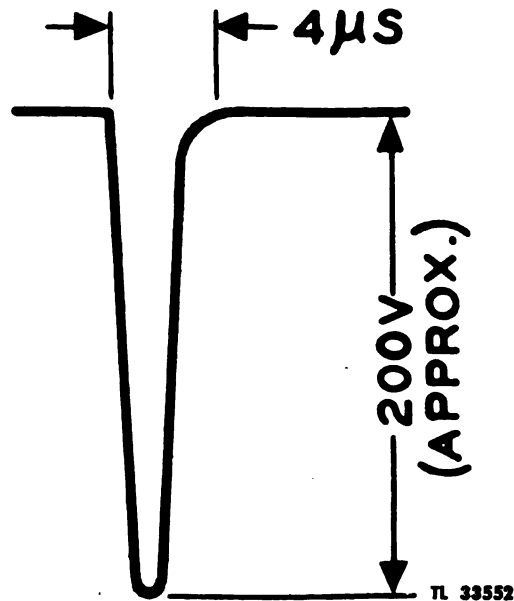

Figure 189. Test oscilloscope pattern.
(2) Connect the test cable to pin 5 of tube 16. The waveform shown in figure 189 should be obtained. This is the input wave after it has been amplified and inverted. The time constant in the plate circuit has been made as low as possible. If the voltage has a greater decay time than that shown in figure 189, the resistance or capacity has probably increased. Be sure that the wiring is dressed away from the chassis. Check resistor 62-5 and tube 16. The same wave form will also appear on pin 1 of tube 16.